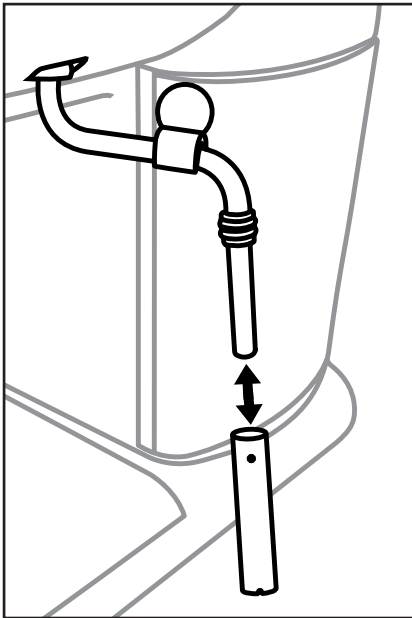

Figure 1
- 1) Place an empty container under the milk frother ⑩.
- 2) Immediately after use, turn the steam control ⑦ to the “+” position and allow the steam to escape for a few seconds.
- 3) Turn the steam control ⑦ off (as far as it will go in the direction “-”), switch the appliance off and remove the plug from the mains power socket.
- 5) Pull the casing of the milk frother ⑩ off (Figure 1) and clean it thoroughly in warm water.
- 7) Push the casing back onto the nozzle (Figure 1).